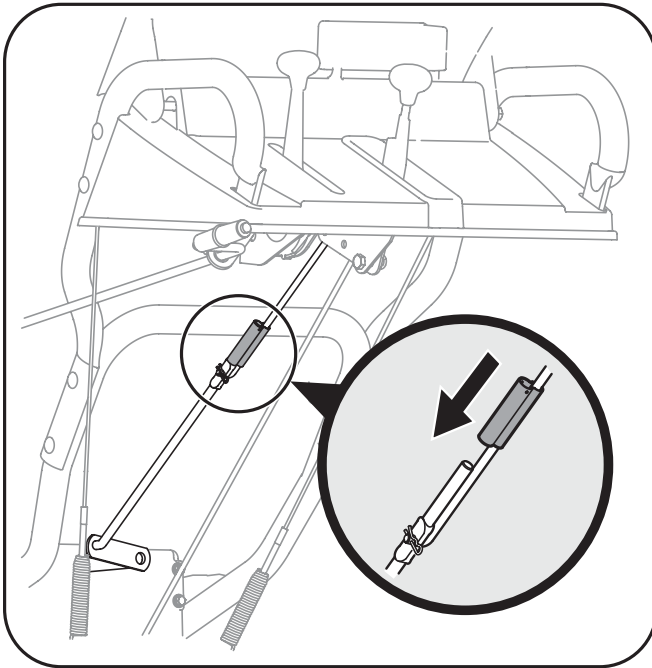

Fig. 3-7
- Align the upper and lower shift rods, then slide the shift rod connector down over the end of the lower shift rod. Tap the connector until the lower rod is completely through the connector. See Figure 3-7.